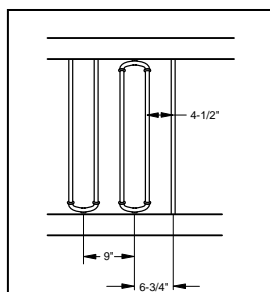

Figure 2
Step 2: Determine the spacing of the Duo Connectors and standard baluster connectors, starting from the center of the rail. The installed spacing of the balusters is 4-1/2" on-center. When installing Duo Connectors in sequence, space them 9" on-center. When installing Duo Connectors in tandem with Classic or Estate balusters, the spacing between the Duo Connector and baluster connector is 6-3/4" on-center. Mark the location of each connector on both top and bottom rails. (Figure 2)